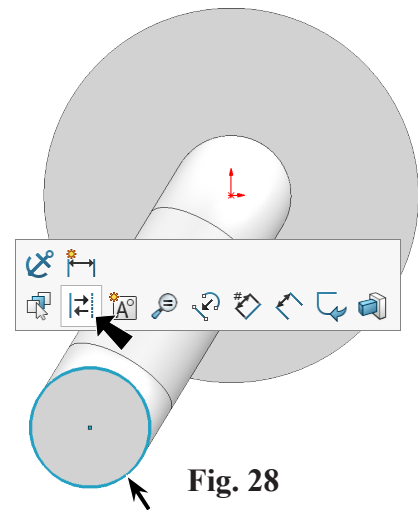

Fig. 28
Step 6. Click the converted circle and click **Construction Geometry**  on the context toolbar, **Fig. 28**.